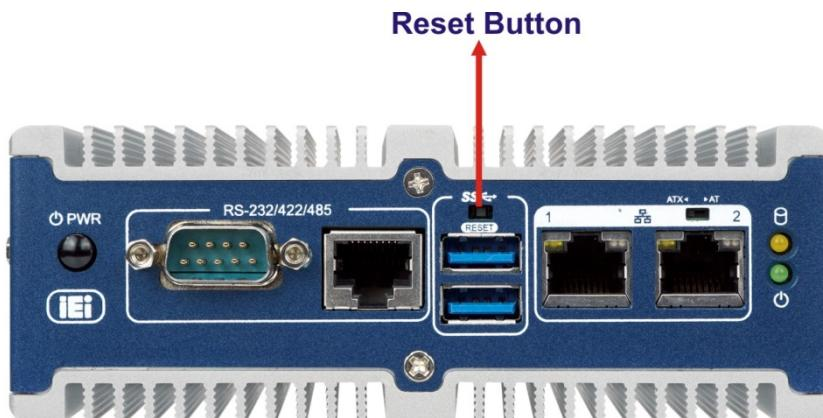

Figure 3-18: Reset Button Location
Step 3: Locate the reset button on the front panel (**Figure 3-18**).